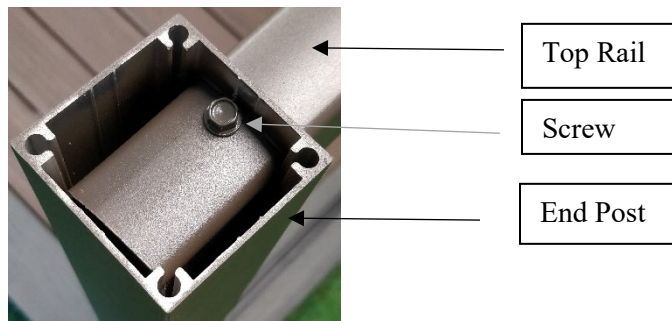

Figure 2 Screw location for top rail and end post
11. Use the impact driver to fasten in a 12x3/4 screw as close to the inside edge of the post as possible, as shown in Figure 2.